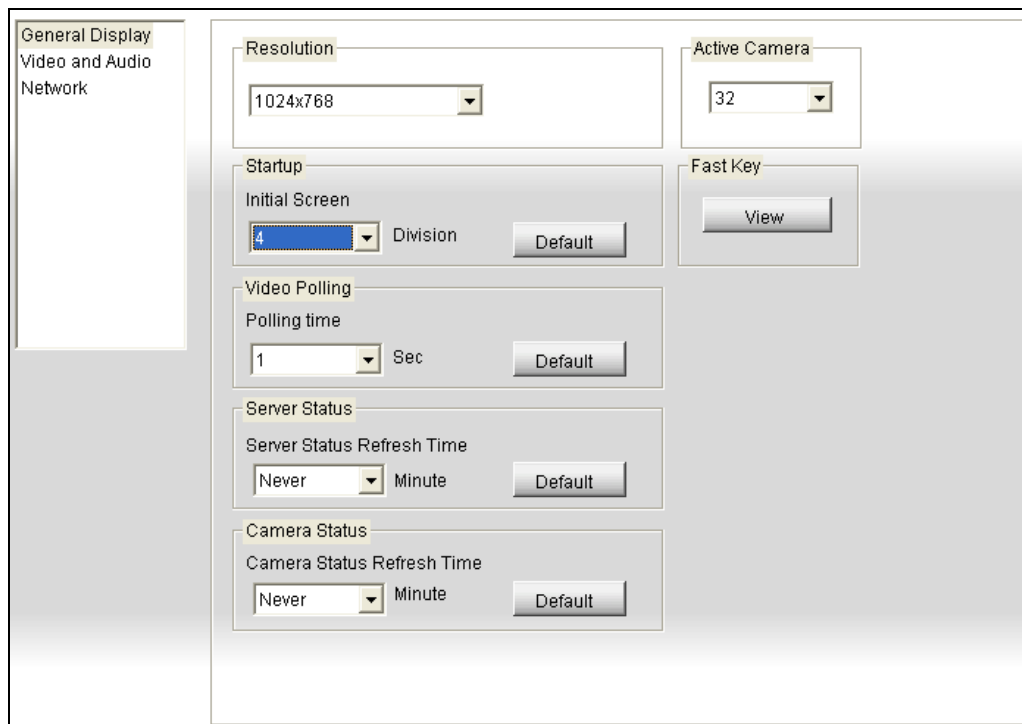

Figure 8-38
2. Click the **Video Polling** button (No. 18, Figure 8-30). The application will rotate the selected cameras in the specified time. To configure the polling time, see Figure 8-38.